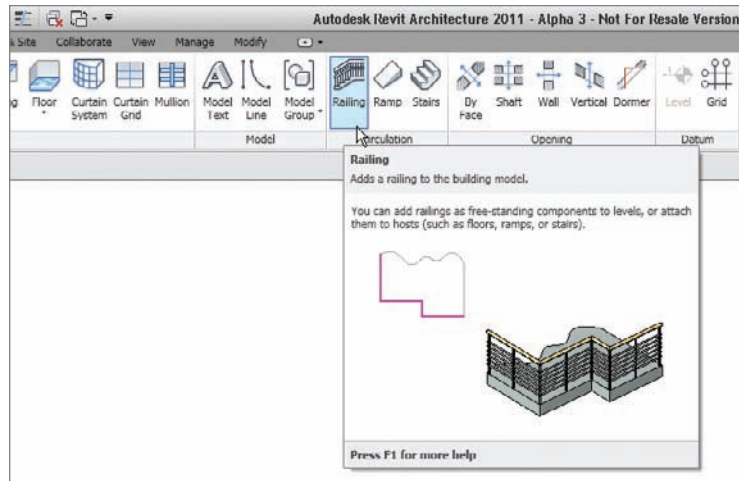

FIGURE 10.23 Click the Railing button on the Circulation panel of the Home tab.
2. On the Home tab, click the Railing button, as shown in Figure 10.23.